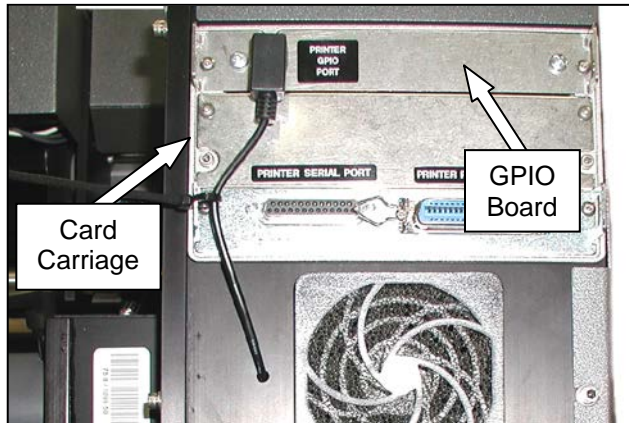

Figure 3-115. GPIO and Card Carriage Locations.
1. Unplug the GPIO cable from the GPIO Board (Figure 3-115).